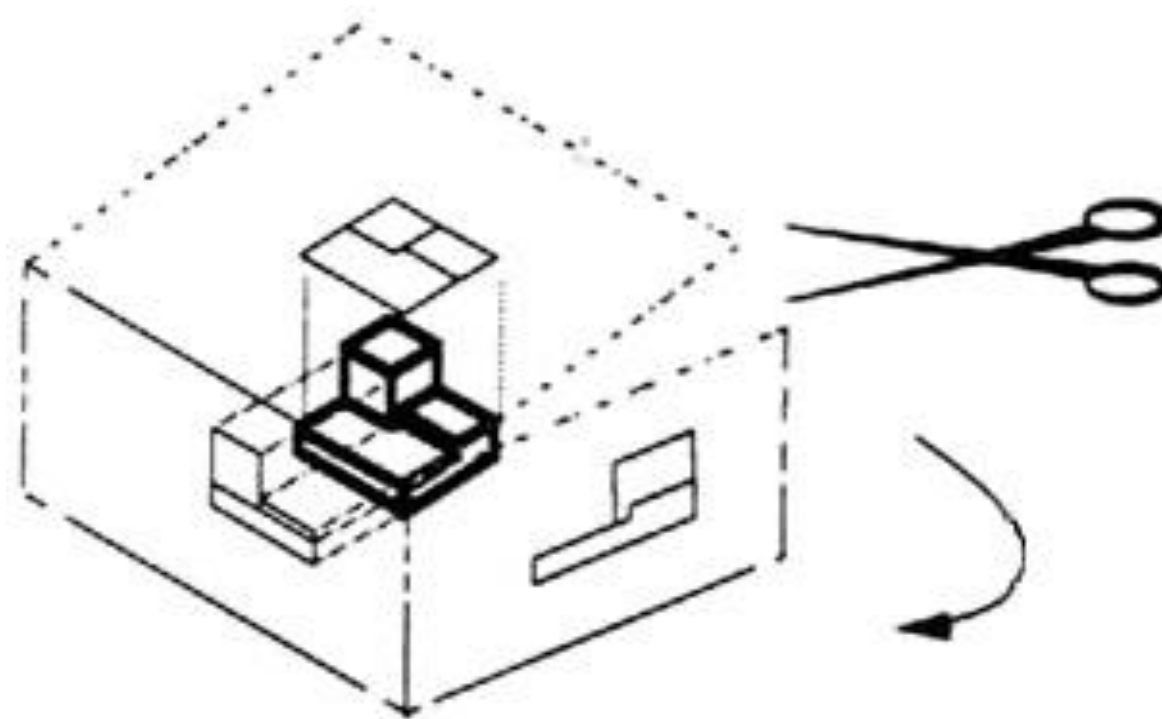

Figure 4 - The creation of an orthographic multiview drawing
- Then draw the object on each of three faces as seen from that direction. Unfold the box (figure 4) and you have the three views. We call this an "orthographic" or "multiview" drawing.